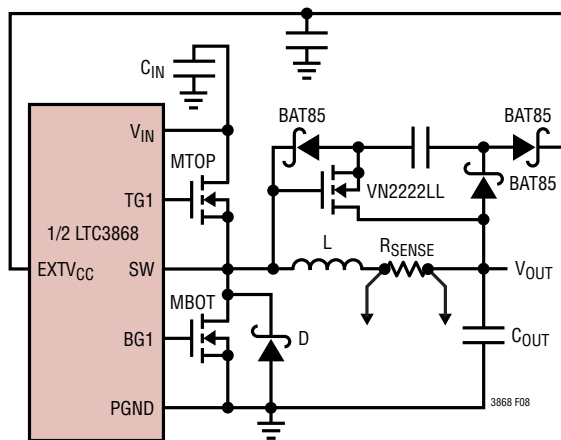

Figure 8. Capacitive Charge Pump for EXTVCC
4. EXTVCC Connected to an Output-Derived Boost Network. For 3.3V and other low voltage regulators, efficiency gains can still be realized by connecting EXTVCC to an output-derived voltage that has been boosted to greater than 4.7V. This can be done with the capacitive charge pump shown in Figure 8. Ensure that EXTVCC < VIN.